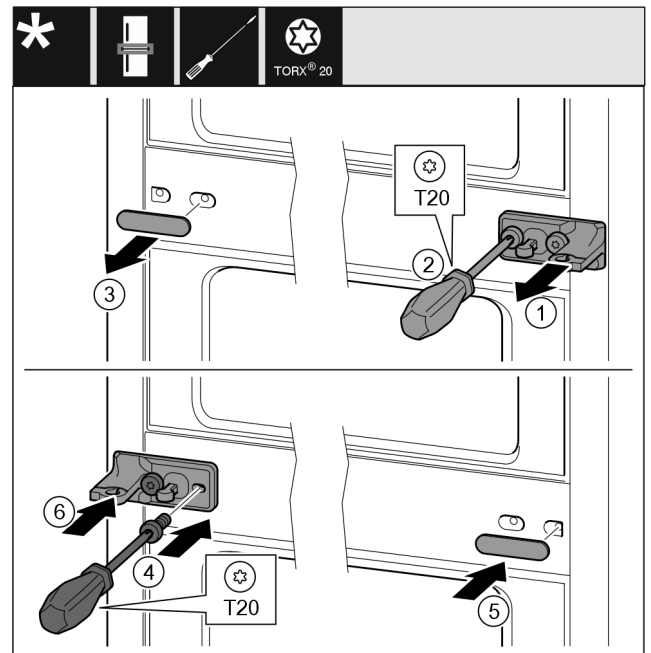

Fig. 33
- ▶ Pull off the washer *Fig. 33 (1)*.
- ▶ Turn out the screws *Fig. 33 (2)* with the screw driver.
- ▶ Carefully pull off the cover *Fig. 33 (3)*.
- ▶ Tightly screw on the swap bearing block with film *Fig. 33 (4)* on the other side turned by 180°.
- ▶ Attach the cover *Fig. 33 (5)* on the other side turned by 180°.
- ▶ Press on the washer *Fig. 33 (6)* from the front.